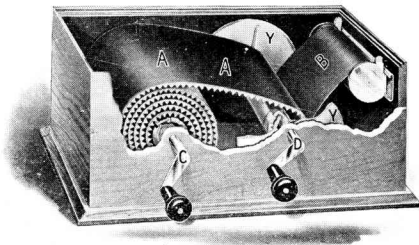

FIG. 1
5. Insert film cartridge in spool carrier and close up the movable arm tight against end of spool. Have the duplex paper ("B" in Fig. 1) lead from the top.